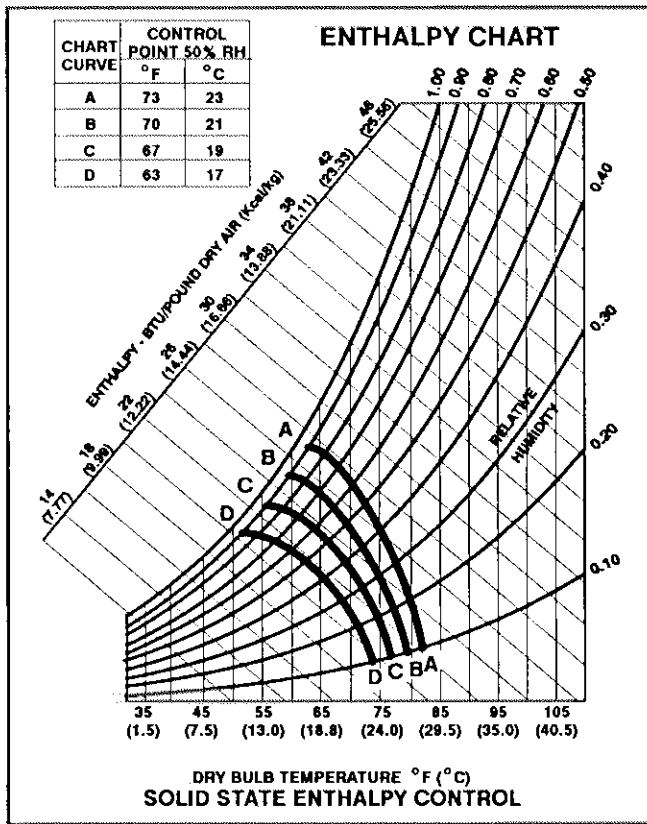

FIGURE 13
- 2- The enthalpy sensor is located in the outdoor air inlet of unit. This control prevents excessively moist outdoor air from entering the system by sensing the total heat content of the outdoor air. The LED on the enthalpy control is lit during "low" enthalpy conditions. The recommended setpoint is **A** shown in figure 13. If the economizer is allowing air which is too moist or too humid to enter the system, the control may be changed to a lower setpoint. See figure 13.